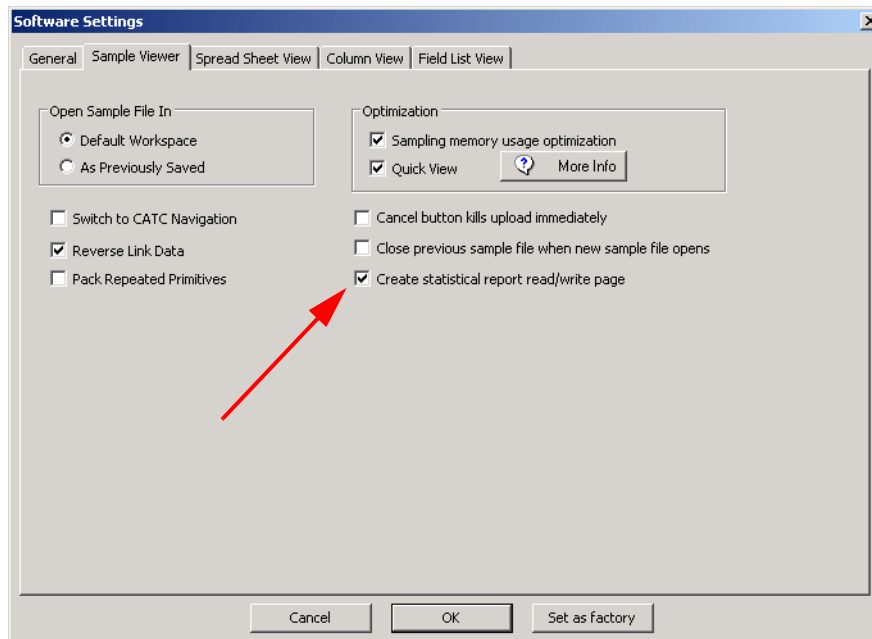

Figure 3.24: Enabling Read/Write Statistical Report
3. Check the box **Create statistical report read/write page** (see Figure 3.24 on page 216.)